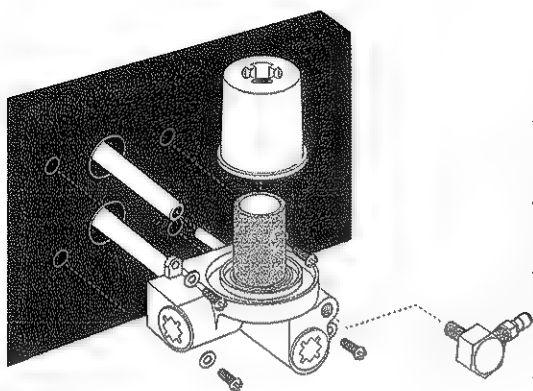

FIGURE 23:
5. Remove the four (4) phillips screws which secure the tri filter assembly to the analyzer.
6. The tri filter can then be pulled straight out from the rear panel approximately 1 to 1-1/2 inches. (See FIGURE 23)